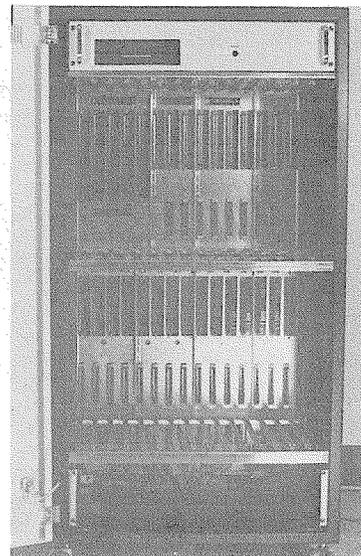

FIGURE 10—DPSA LOCATION
05.23 The DPSA is installed in the bottom shelf of the DCEC (Figure 10) as follows: